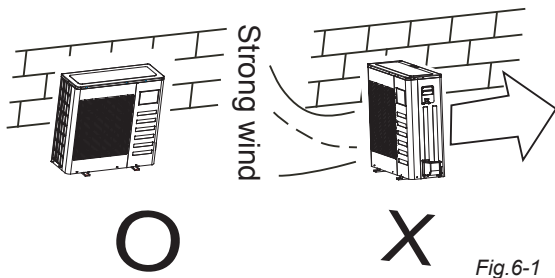

Fig. 6-1
- In the case that the installation place is exposed to strong wind such as a seaside, make sure the fan operating properly by putting the unit lengthwise along the wall or using a dust shield. (Refer to Fig. 6-1)